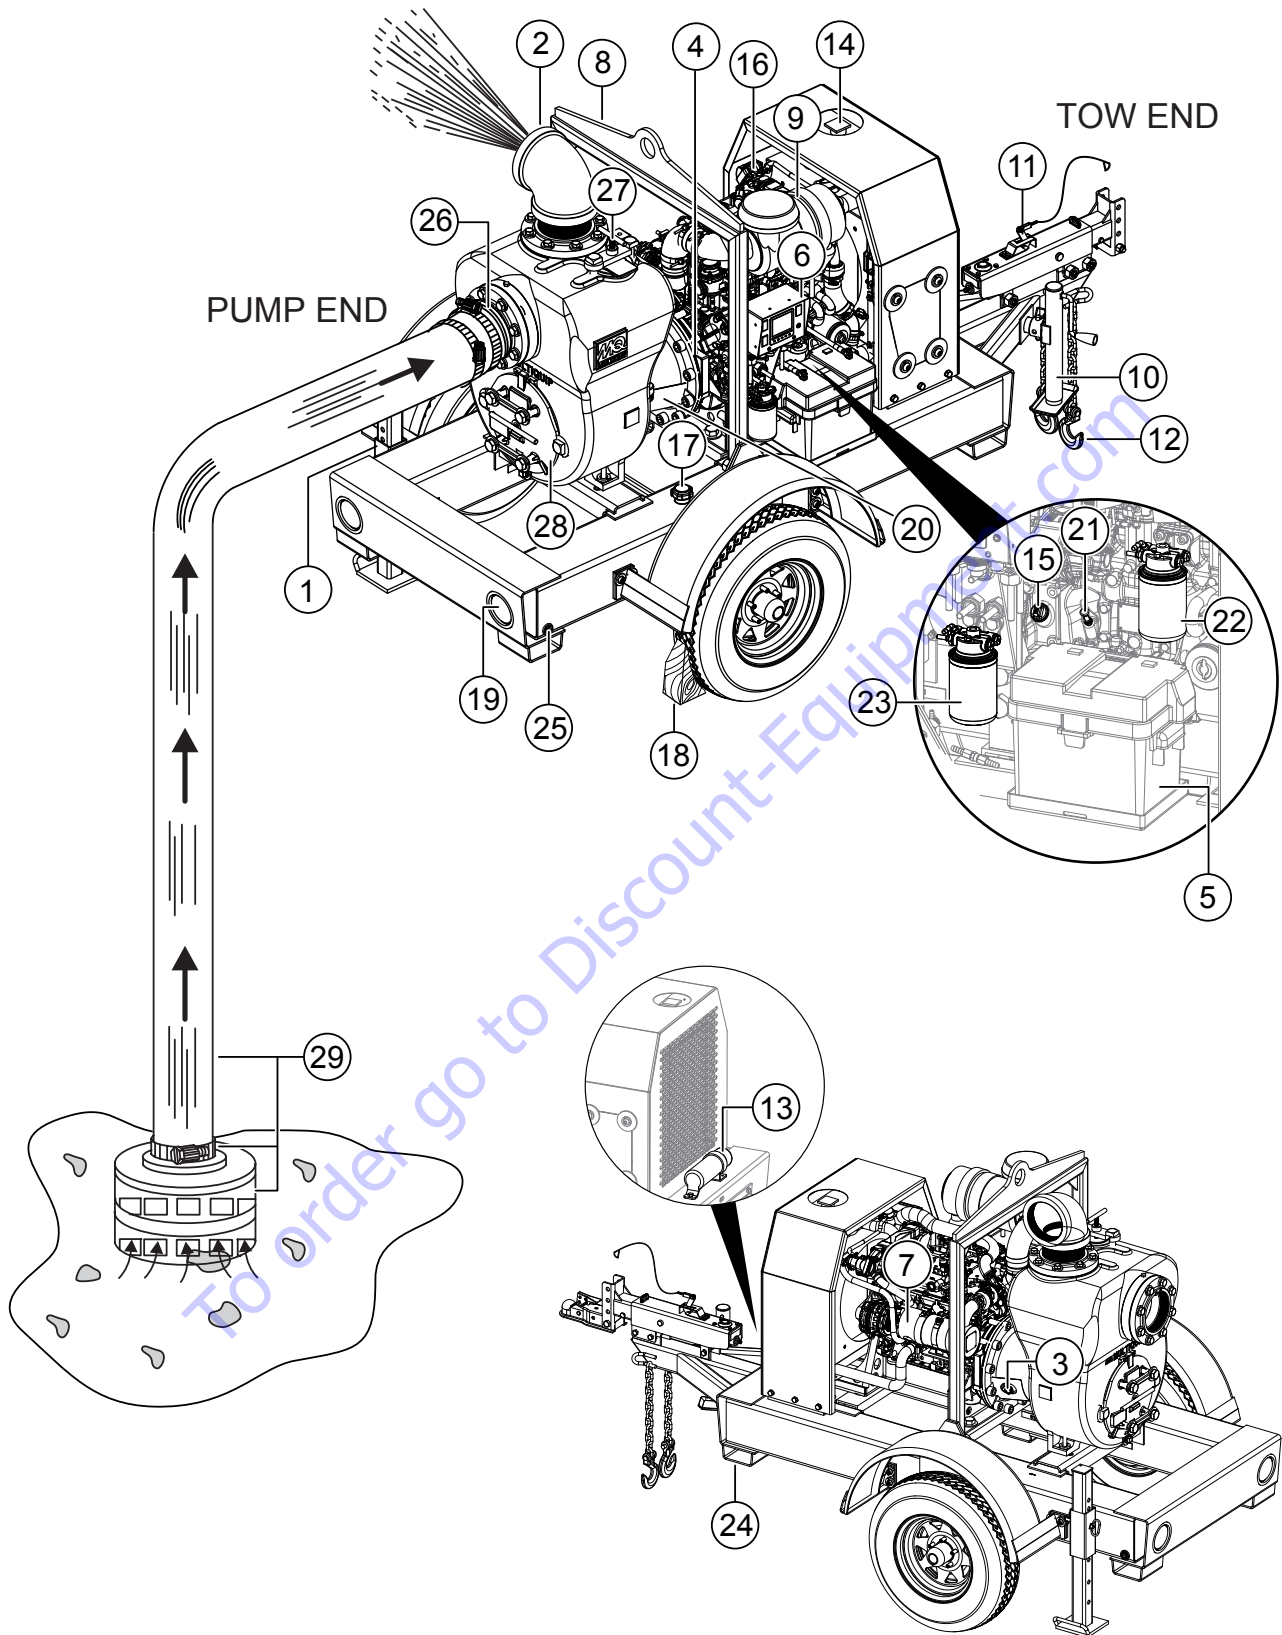

Figure 3. Pump Components
Figure 3 shows the location of the components and basic components for the MQ600H-HTB-HTP trash pump, The function of each component or control is described below:
3. To prime pump, remove fill cap (Figure 3) and fill pump case with water. If the pump case is not filled with water before starting, it will not begin pumping.
4. Check that the **discharge** hose (Figure 3) is not restricted. Place hose so that it lays as straight as it is possible on the ground. Remove any twists or sharp bends from hose which may block the flow of water.